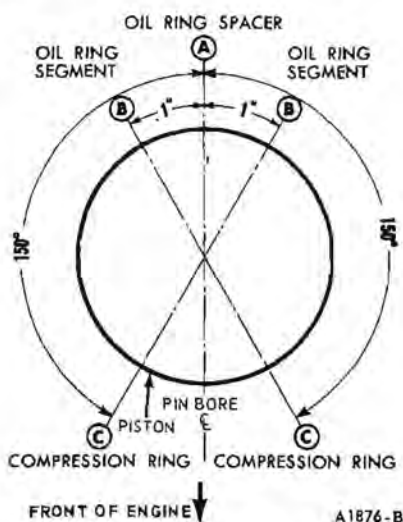

FIG. 42—Piston Ring Gap Spacing
3. Make sure the ring gaps are properly spaced around the circumference of the piston (Fig. 42).
Be sure the piston ring gaps are properly spaced (Fig. 42).